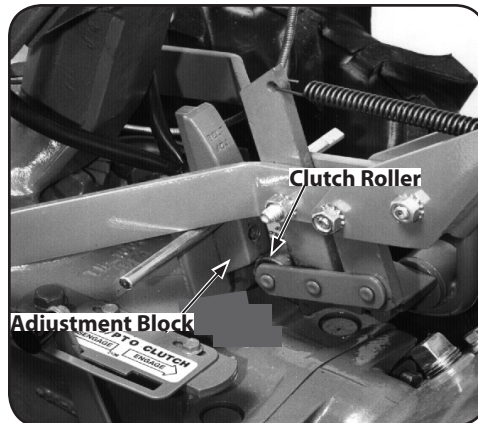

Figure 5-16
4. Place the Wheels/Tines/PTO Drive Lever in FORWARD position. The arms of the clutch control yoke will be resting on the belt adjustment tool and the clutch roller should be engaged slightly beneath the adjustment block. See Figure 5-16.